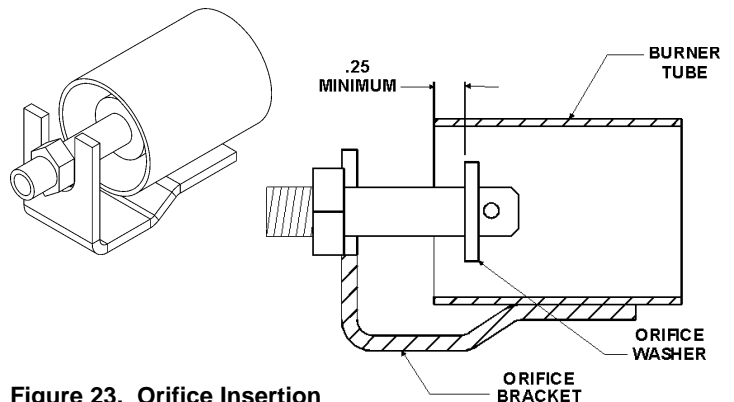

Figure 23. Orifice Insertion
5. Reinstall burners in unit. Ensure that all the screws on the burner flange are tightened securely so that the gasket will provide a good seal. Also, ensure that each orifice is centered with the venturi opening of every burner. **The washer of the orifice must be inserted a minimum of 1/4" into the burner tube. This is critical for proper operation. See Figure 23.**